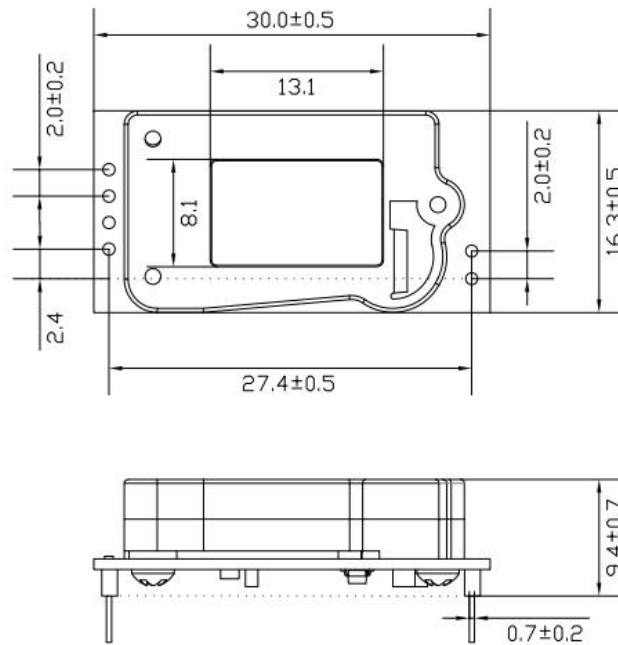

Figure 4. ACD10 Dimension (unit: mm, tolerances unmarked: ± 0.5 mm)
- (1) To prevent irreversible damage, users should not disassemble ACD10.
- (2) For manual calibration, ACD10 must be placed in an environment with stable and given CO₂ concentration longer than 20 minutes.
- (3) In manual calibration mode, the recommended calibration period is less than 6 months.
- (4) ACD should be mounted on an equipment with the size of air inlet and outlet larger than the opening size of ACD 10 (the 13.1mm×8.1mm window shown in Figure 4).
- (5) ACD10 should be used in a place far away from the heat source, and a direct sunlight or other thermal radiation on ACD10 should be avoid.
- (6) Do not use the sensor in an environment with high dust density for a long time.
- (7) Flow welding must not be used for ACD10. The welding temperature shall be below 350°C and the welding time should be less than 3s.
- (8) To install sensors with welded sockets is suggested for easy maintenance in future.
- (9) ACD10 has been calibrated. Do not take the third-party instrument or data as standard for comparison. If the user wants the measurement data to be consistent with the third-party instrument, ACD10 can be calibrated referring the data from third-party instrument.
- (10) PCB in ACD10 has been treated to be moisture-proof with coating of silicone potting or acrylic conformal coating with a thickness more than 0.15mm. Please protect the coating during use.